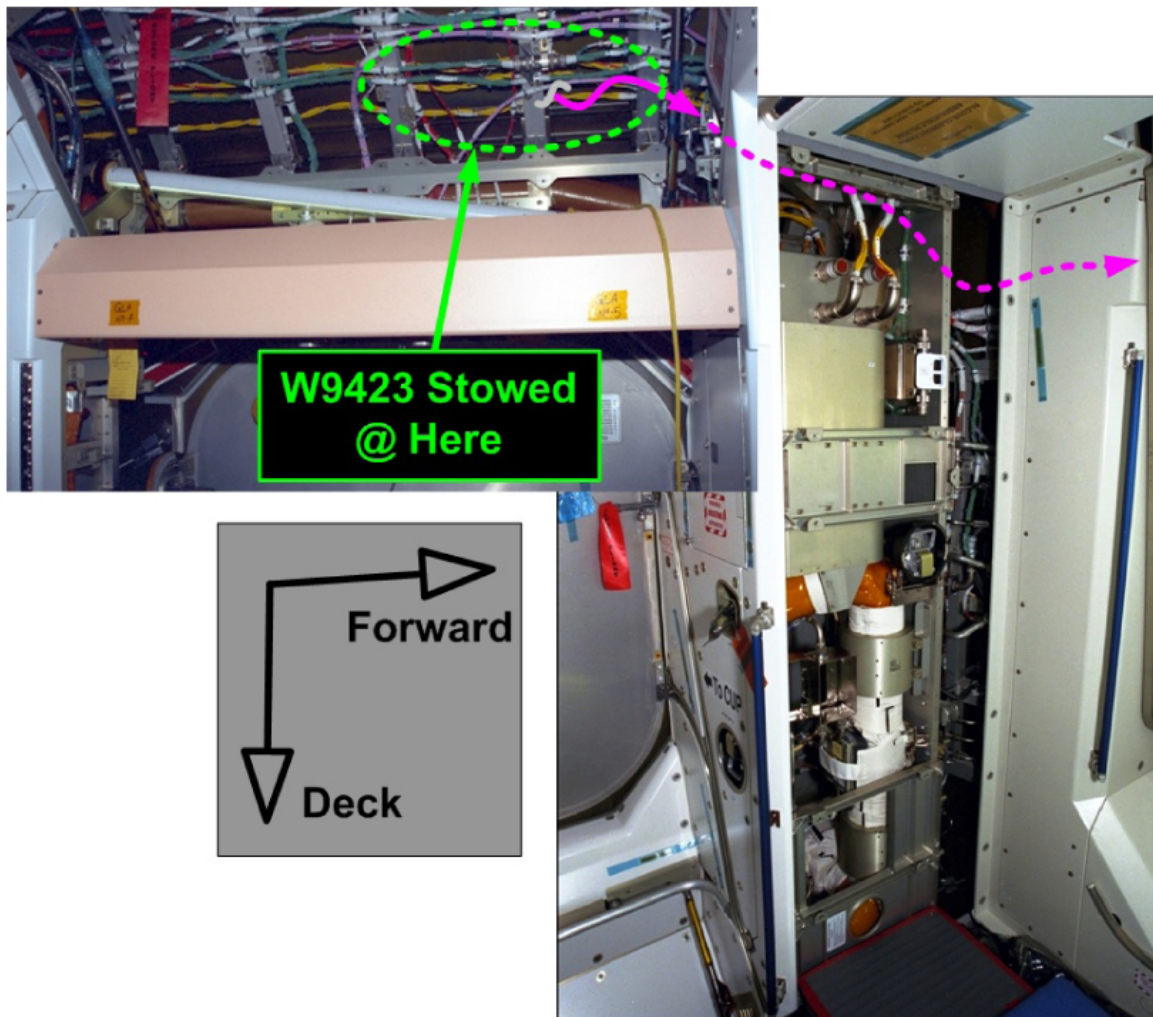

Figure 3. Video/Audio Bus A Cable Routing in Overhead Port and Port Alcove.
- NOD1OP21 4.1 Locate stowed coil of NOD1 Video/Audio Bus A Cable (W9423) in Overhead Port Radial area. Uncoil cable and route behind Port Alcove box structure and around to forward endcone area to port of the Node 1 Forward Hatch. Refer to Figure 3.